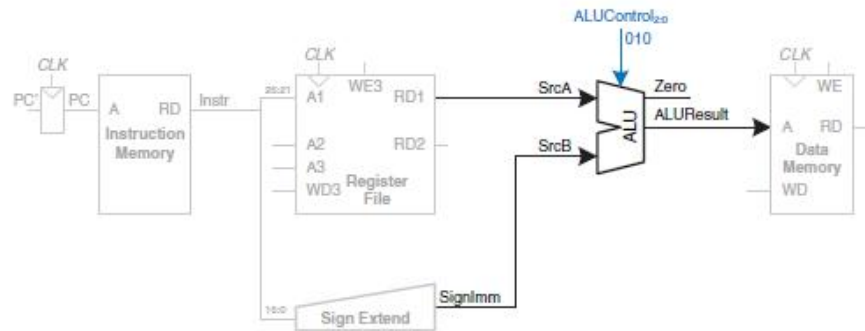

Figure 7.5 Compute memory address
- - The processor must add the base address to the offset to find the address to read from memory. Figure 7.5 introduces an ALU to perform this addition.
- For a lw instruction, the ALUControl signal should be set to 010 to add the base address and offset. ALUResult is sent to the data memory as the address for the load instruction, as shown in Figure 7.5.